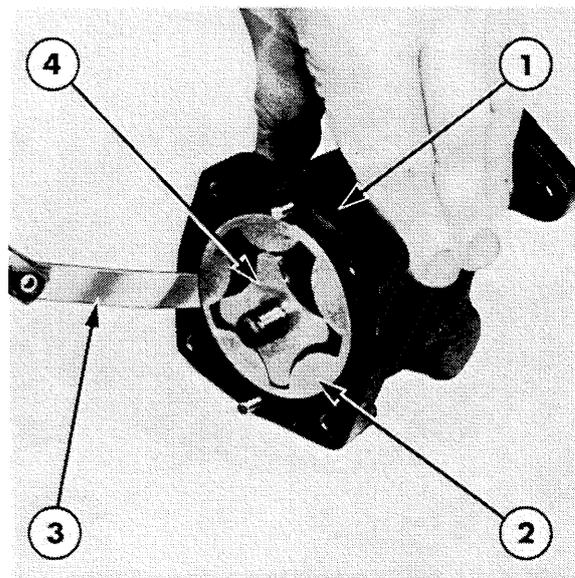

Figure 31
4. Use feeler gauges to measure the clearance between the periphery of the outer rotor and the pump body, Figure 31.